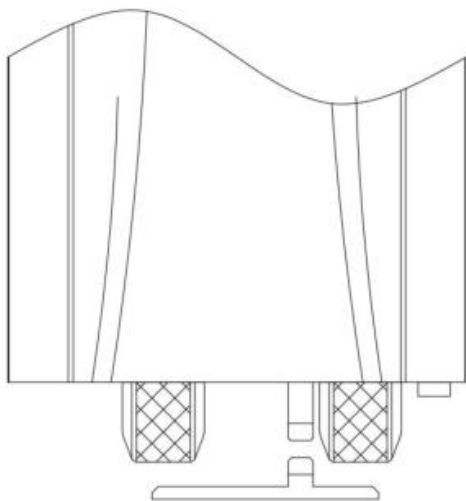
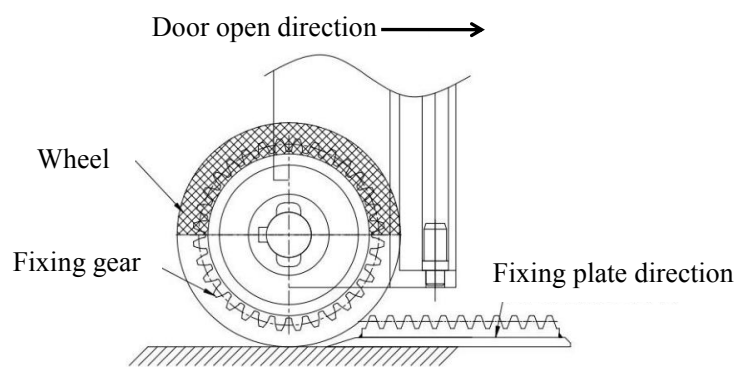

Fig.01-01
Fig.01-02
1. Push the door (installed with the motor) to open limit, and put the fixing plate on this position as Fig.01-01 and Fig.01-02.
3. Switch the motor to manual mode and push the motor away from the center line which has been drawn (close direction), and then make center line of the rack on the fixing plate shifted to the drawn center line and aligned with fixing gear. (in the direction shown in Fig.01-01).